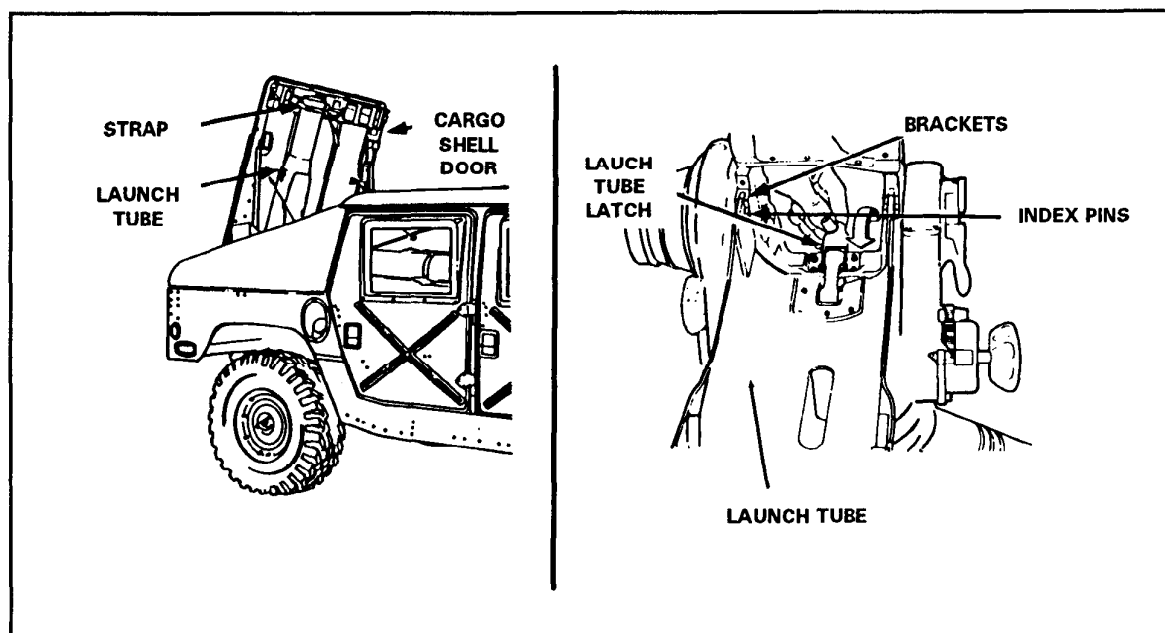

Figure 3-10. Launch tube latch.
(1) The driver-loader uses the forward latch to open the cargo shell door and hands the launch tube to the gunner.
(2) The gunner installs the launch tube on the traversing unit and secures it with the launch tube latch (Figure 3-10).